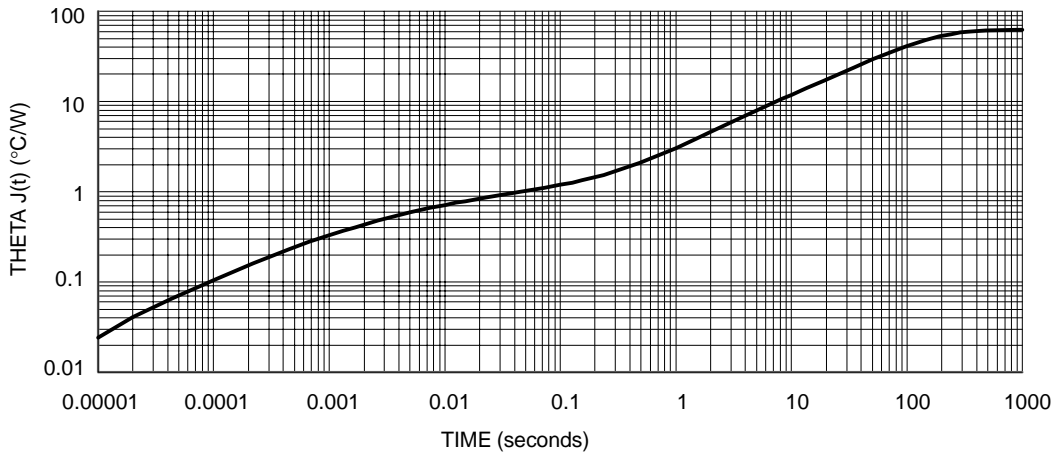

Figure 20. Thermal Transient Response
*Turn-on Surge:* During the turn-on event, there is a large amount of energy dissipated due to the linear operation of the power device. The energy rating is the amount of energy that the device can absorb before the thermal limit circuit will shut the unit down. This is very important specially for the latch off device as it determines the maximum load capacitance that the device can charge before the thermal limit shuts the device down. The calculation of this is not very simple as it depends on several factors such as the input voltage ( $V_{in}$ ), load capacitance ( $C_L$ ), current limit settings ( $I_{Limit}$ ) and device’s thermal transient response. Figure 20 shows the device’s thermal transient response for minimum pad.
$R_{\theta J(t)}$  is the value from Figure 20
By calculating the charging time, the thermal transient resistance is then given by Figure 20. And finally the device junction temperature ( $T_j$ ) for turn-on surge conditions is calculated. If the calculated  $T_j$  does not exceed 135°C, then the thermal limit circuit is most likely to not shut the unit down.
From Figure 20: